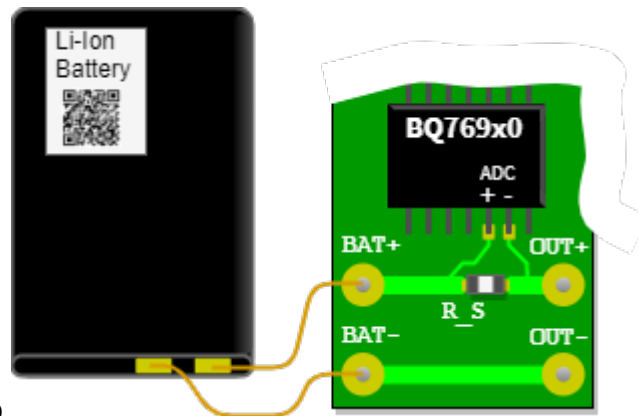

Fig. 24: Sketch of the setup
- The battery monitor BQ769x0 measures the charge and discharge currents of a lithium-ion battery by means of the voltage across a measuring resistor (shunt). In figure 24 the analog-to-digital converter (ADC) of this chip is connected to the shunt  $R_S$  via the circuit board. Through the shunt the discharge current flows from the battery connection  $BAT+$  to  $OUT+$  and via  $OUT-$  back to  $BAT-$ . The shunt shall be designed so that the bipolar measurement signals have a voltage level in the range of  $-0.20\text{ V}$  to  $+0.20\text{ V}$ . The analog-to-digital converter has a resolution of  $15\mu\text{V}$ . The currents can be used to count the charge in the battery to determine the state of charge (SOC).